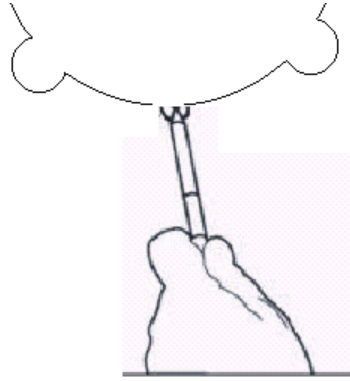

Figure 10
- 2) Base on the red spot to draw the sign (reference to Figure 10)